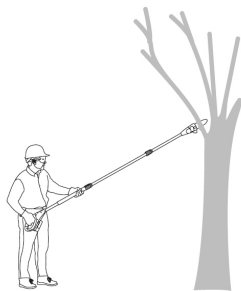

Fig. 23a
a). Always hold the product firmly with both hands on gripping surface and handle grip (A17). Never operate this product using only one hand. (See Fig. 23a)